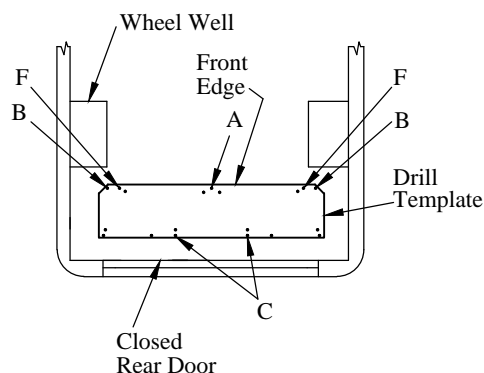

Figure 7: Drill location (top view).
15. Drill 3/8" holes in six (6) locations in the template. Drill "B", "C", and "F" locations only, skip all others (Figure 7).